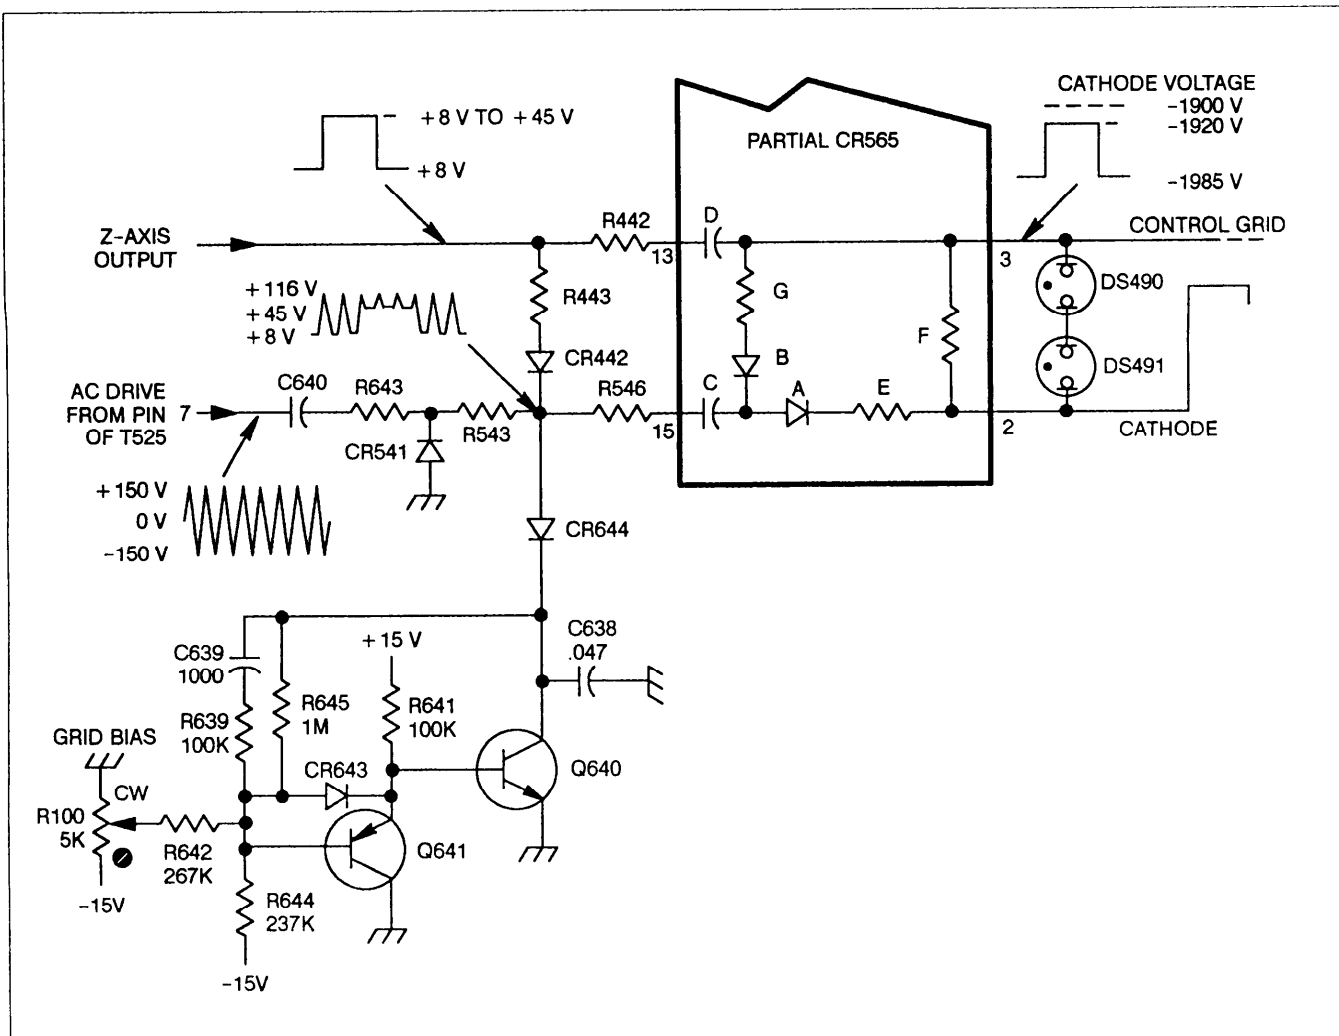

Figure 3-10. DC Restorer.
The DC Restorer provides CRT control-grid bias and couples both the DC and the low-frequency components of the Z-Axis drive signal to the CRT control grid. This circuit allows the Z-Axis Amplifier to control the display intensity by coupling the low-voltage Z-Axis drive signal (VZ) to the elevated CRT control grid potential (about -1.9 kV). Refer to Figure 3-10 for the following description.
DC RESTORATION. The DC Restorer circuit in the High-Voltage Module is referenced to the CRT cathode voltage via a connection within CR565. Capacitor C (labeling shown in fig. 3-10), connected to pin 15 of CR565, initially charges to a level determined by the difference between the Z-Axis signal level and the CRT cathode potential. The Z-Axis signal sets the level on the positive plate of capacitor C through R443, CR442, and R546; the level on the negative plate is set by the CRT cathode voltage through resistor E and diode A. Capacitor D is charged to a similar DC level through resistor F and R442.